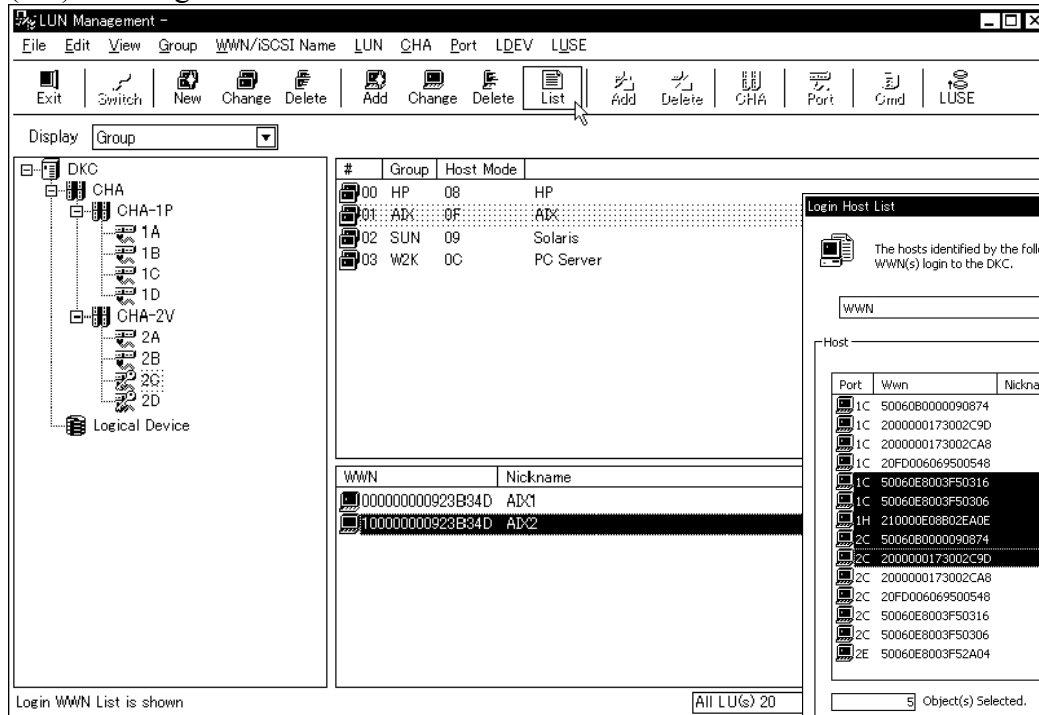
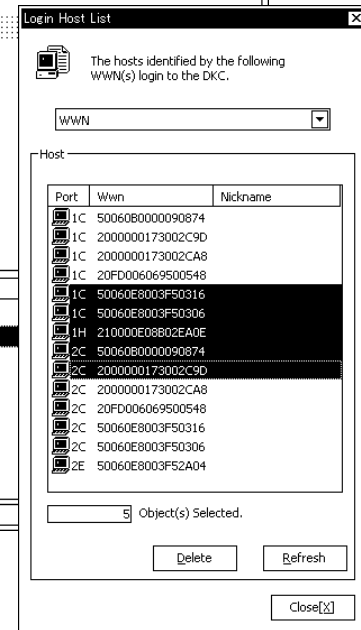

Figure 4.4.1 Main Window
Figure 4.4.2 Login Host List Window
- ① Select (DR) [Login List] from the [WWN/iSCSI Name] menu in the Main Window (Figure 4.4.1).
- ② Select (CL) the [Refresh] button is redraws the WWN list.
- ③ Since the Login Host List window (Figure 4.4.2) is displayed, selected (CL) the WWNs and select (CL) the [Delete] button.
- ④ Select (CL) the [Close] button is close window returns you to the Main Window.